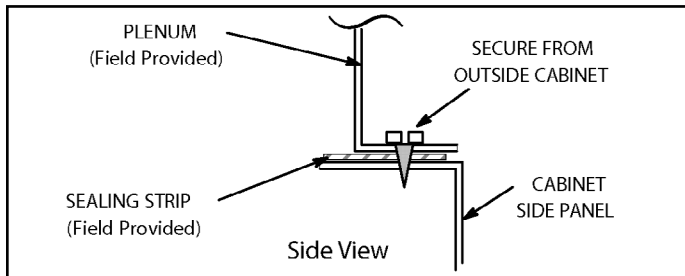
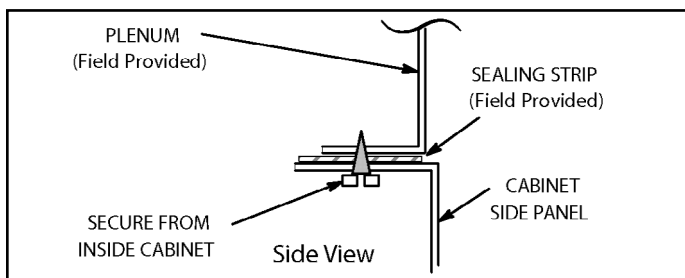

Figure 18.
Figure 19.
1. Bottom edge of plenum should be flanged with a hemmed edge (See Figure 18 or Figure 19).